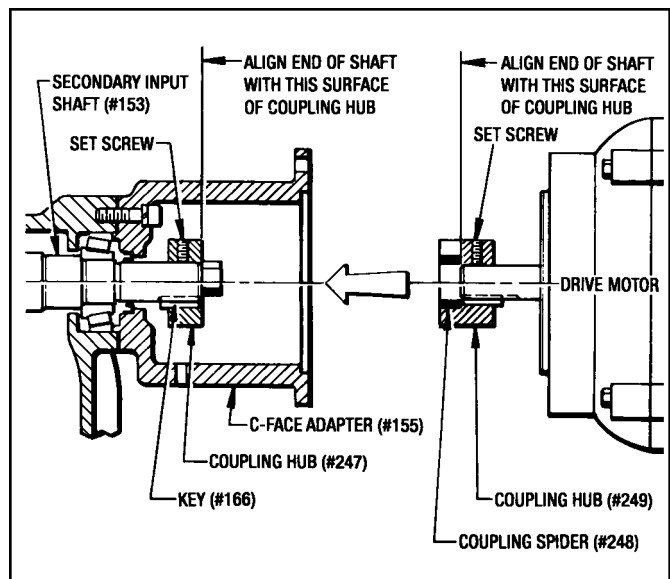

Figure 9.11 - Installing C-Face Motor With Coupling
(See Figures 9.11 and 10.7)
1. Install Coupling Hub (#247) onto the Secondary Input Shaft (#153) and the other Coupling Hub (#249) onto the Drive Motor Shaft as shown in Figure 9.11. Tighten with set screws when properly positioned. Slip the Coupling Spider (#248) into one of the Couplings. Carefully align the two Coupling Hubs together and attach the Drive Motor with (4) Screws (#262) and (4) Washers (#265).